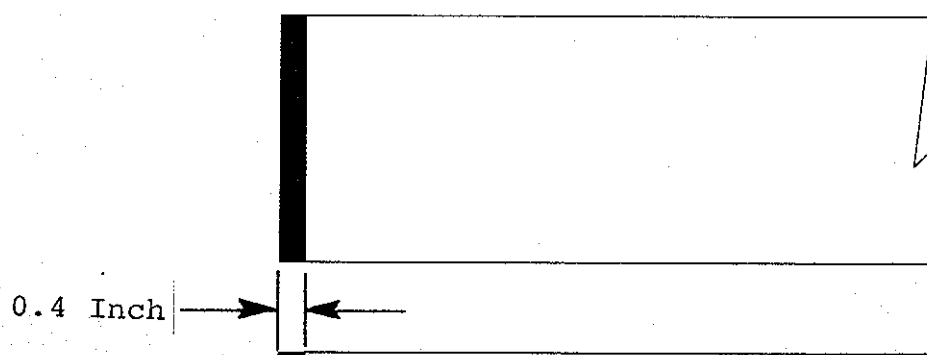

Figure 6. Stripping the Inter-Layer Shield
3. Strip the shield insulation for a distance of  $0.4 \pm 0.1$  inch (Figure 6).